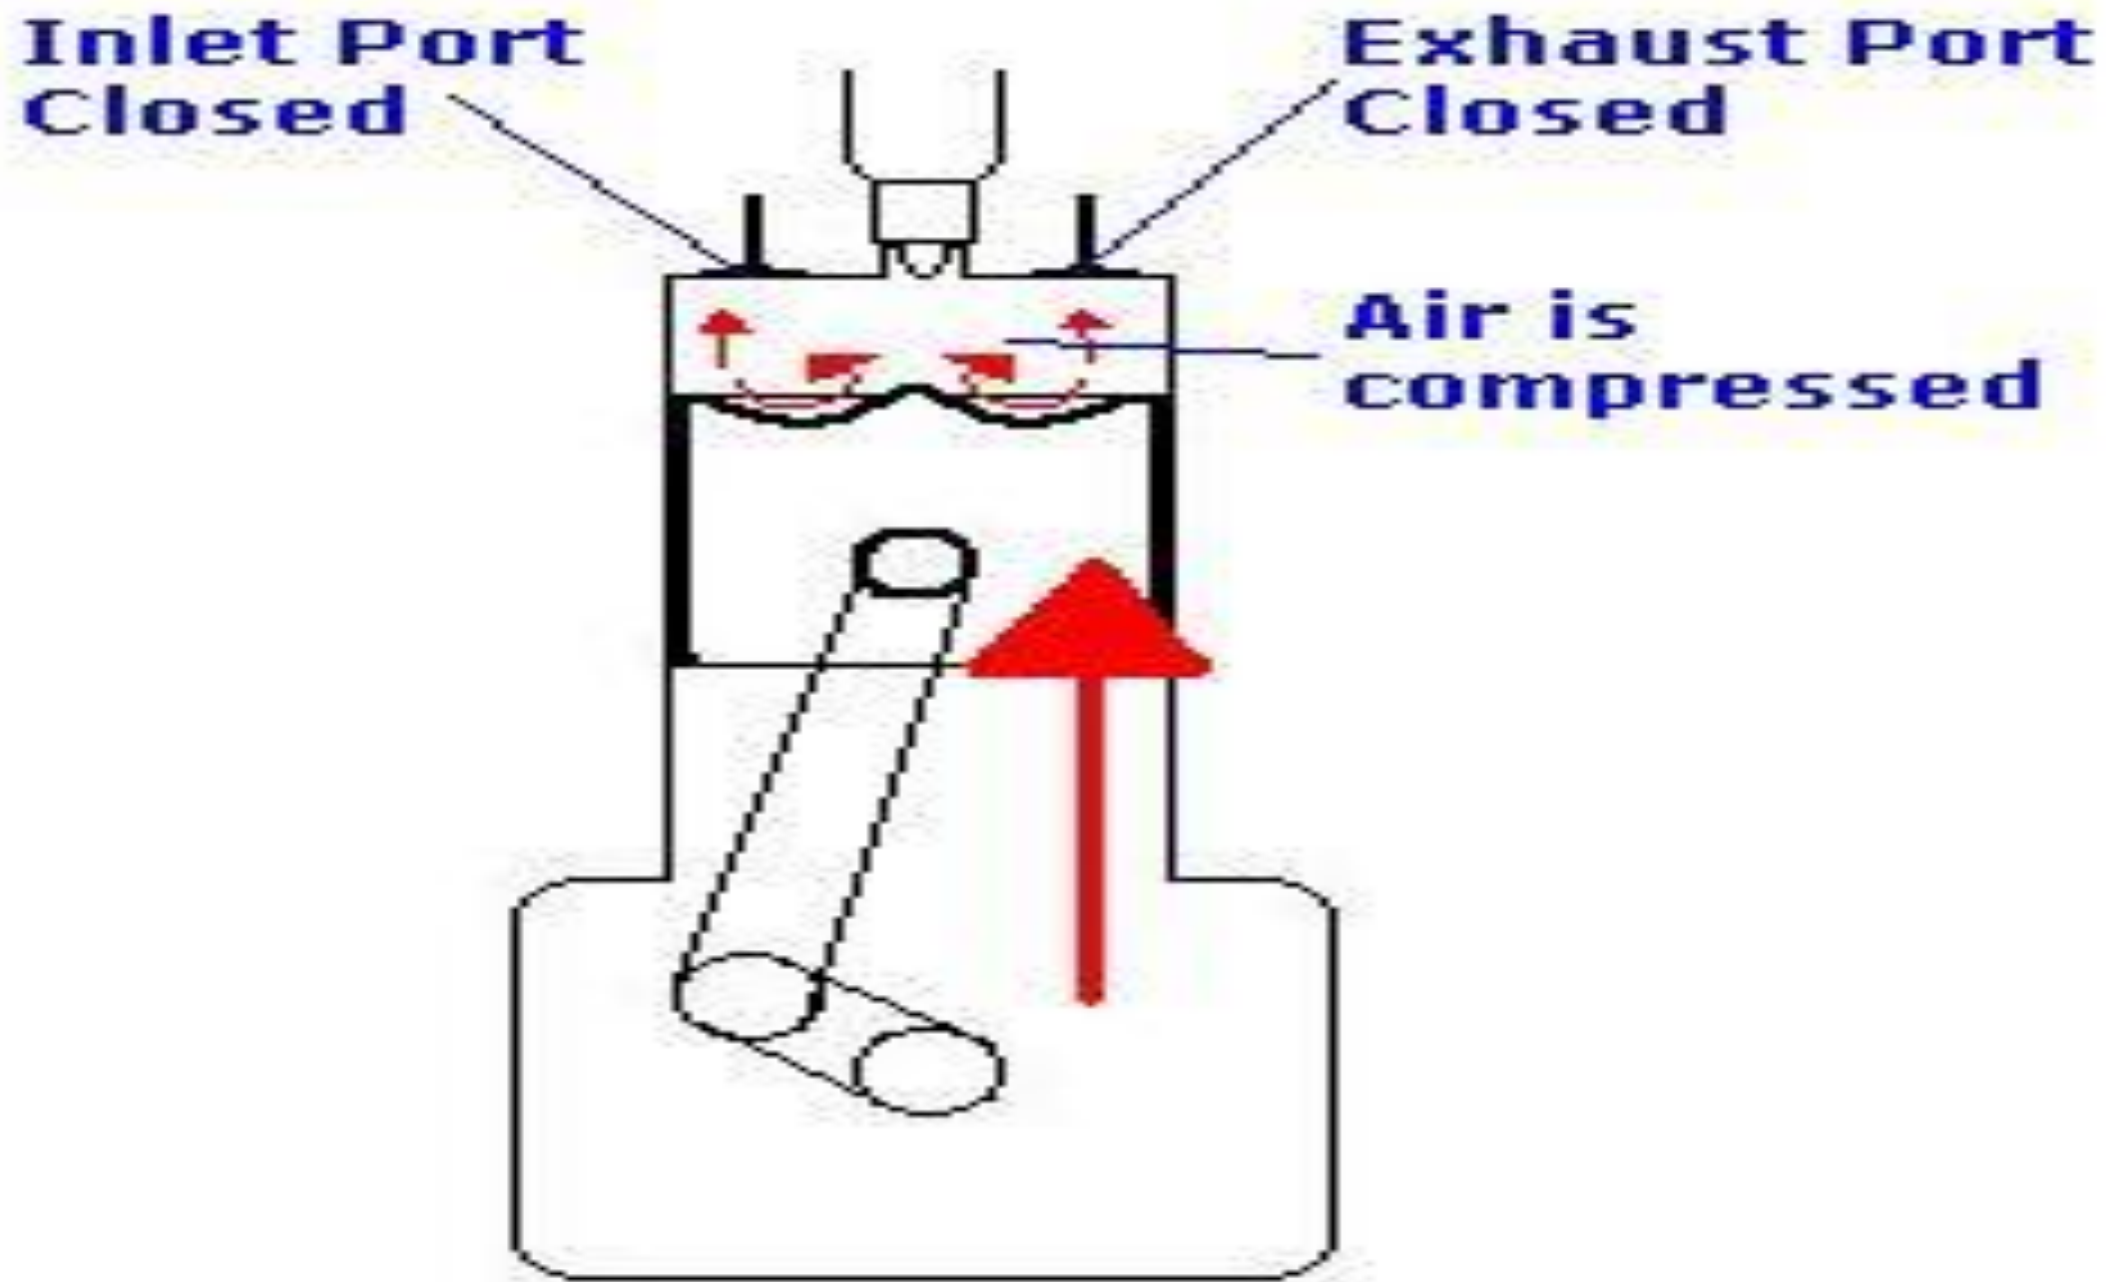

Figure11: Compression stroke
- **Compression Stroke :** The same as in an SI engine except that only air is compressed and compression is to higher pressures and temperature, refer figure 11.